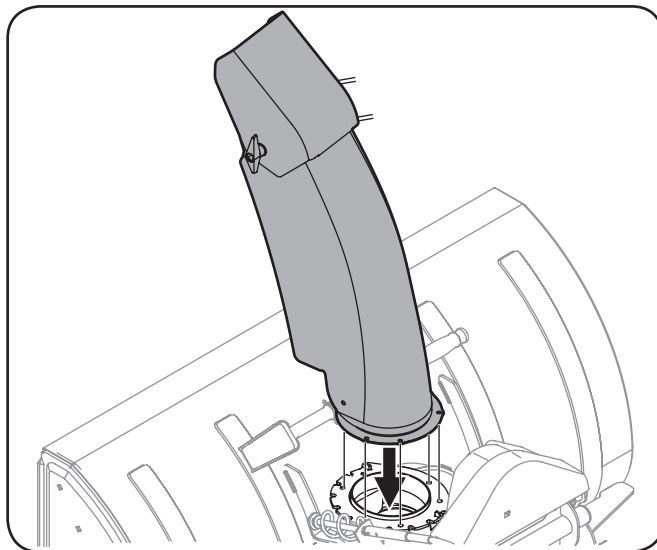

Figure 3-16
3. Position the chute assembly (facing forward) on the chute ring. See Figure 3-16.